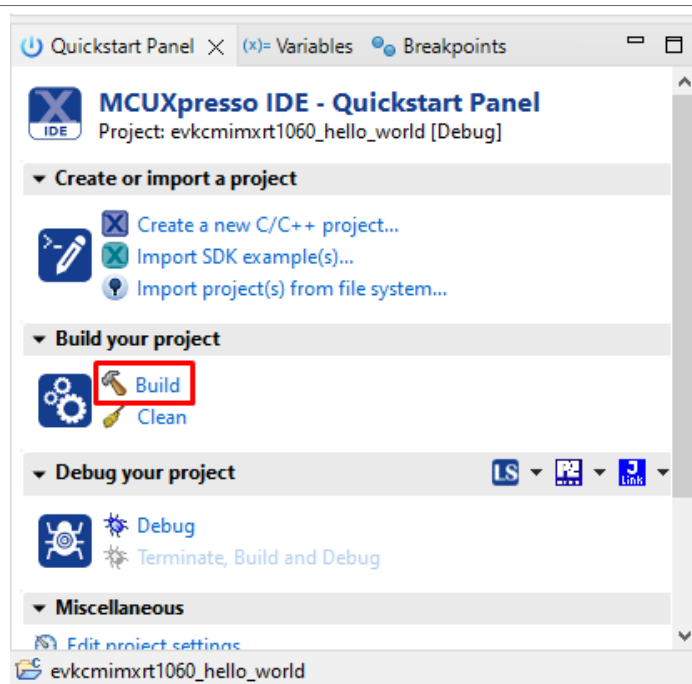

Figure 36. Building hello world case
6. On the **Quickstart Panel** tab, click **Build evkcmimxrt1060_demo_apps_hello_world [Debug]**, as shown in Figure 36.